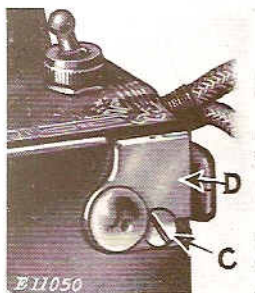

FIG. 31. BOBBIN WINDER
If the thread does not wind evenly on the bobbin, loosen the screw (C, Fig. 31) which secures the bobbin winder tension bracket (D, Fig. 31), and move the bracket to the right or to the left as required. Then securely tighten screw (C).